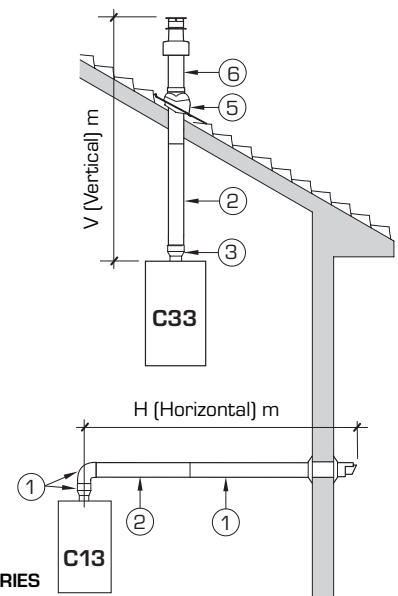

Fig. 6
2.5 INSTALLATION OF COAXIAL DUCT ø 60/100 - ø 80/125 (fig. 6)
The diagrams of fig. 6 illustrate some examples of different types of fluing options allowed and the maximum lengths that can be reached.